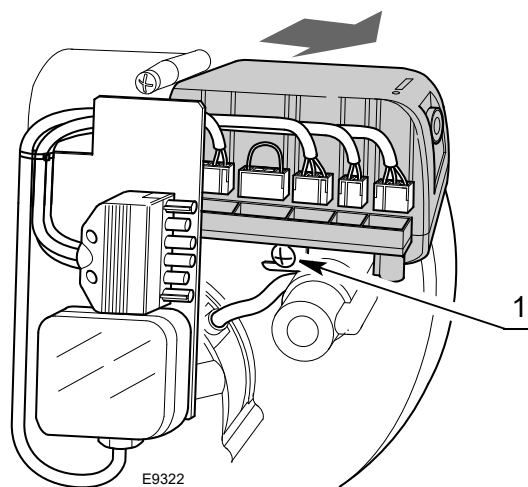

Fig. 15
- disconnect all the connectors connected to it, the 6-pin plug, the high voltage cables, and the earth wire (TB);
- loosen the screw 1)(Fig. 15) and pull the control box in the direction of the arrow.
- tighten screw 1)(Fig. 15) with a tightening torque of $1 \div 1.2$ Nm;